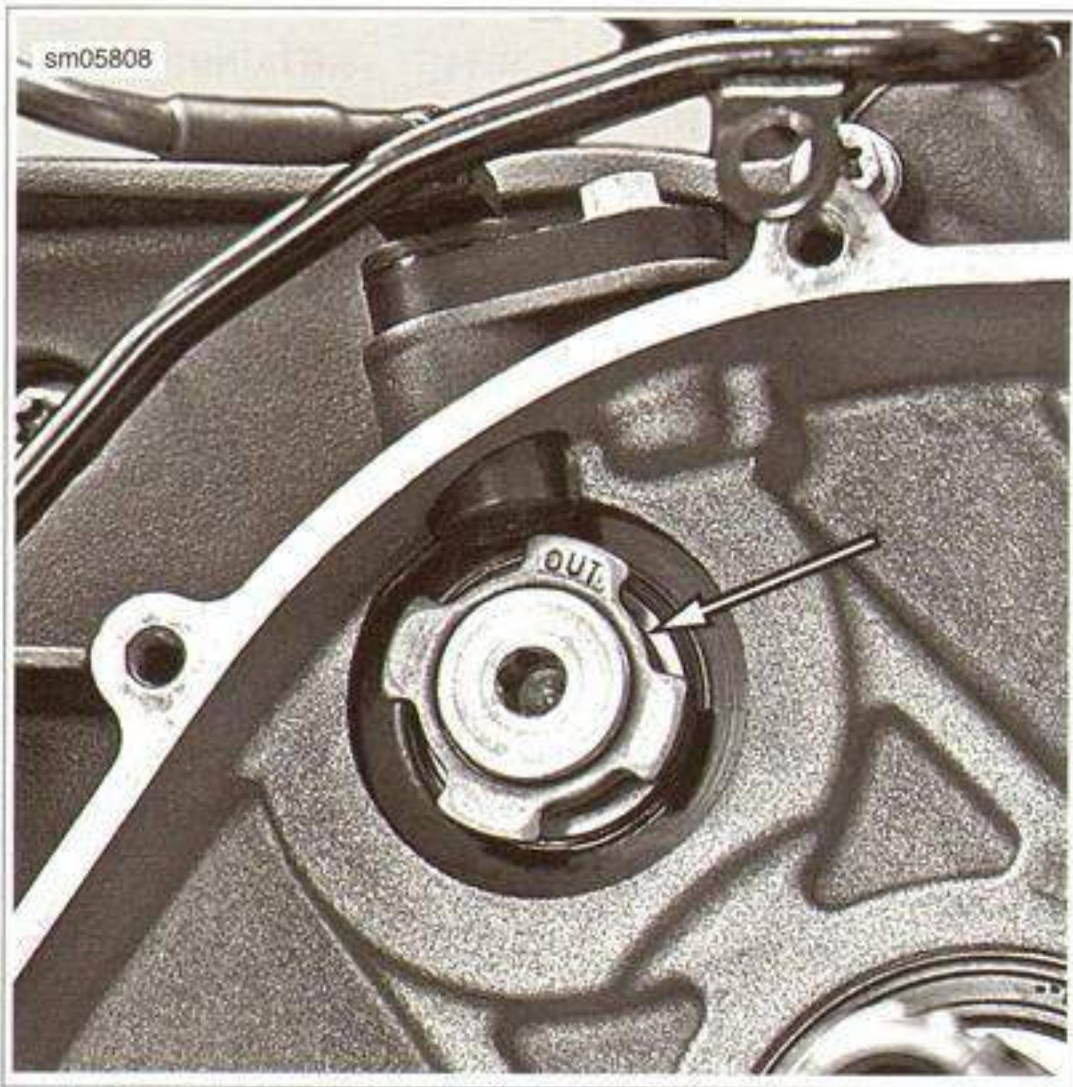

Figure 6-71. Trigger Wheel
2. See Figure 6-71. Remove fastener and trigger wheel.